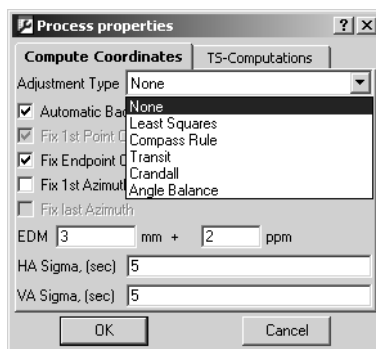

Figure 5-4. Process Properties – Compute Coordinates
2. On the *Process properties* dialog box, select the *Compute Coordinates* tab and choose one of the following the Adjustment types (Figure 5-4):
3. Select an azimuth balancing parameter (Figure 5-4). See “Azimuth Balancing Method” on page 5-7 for details.